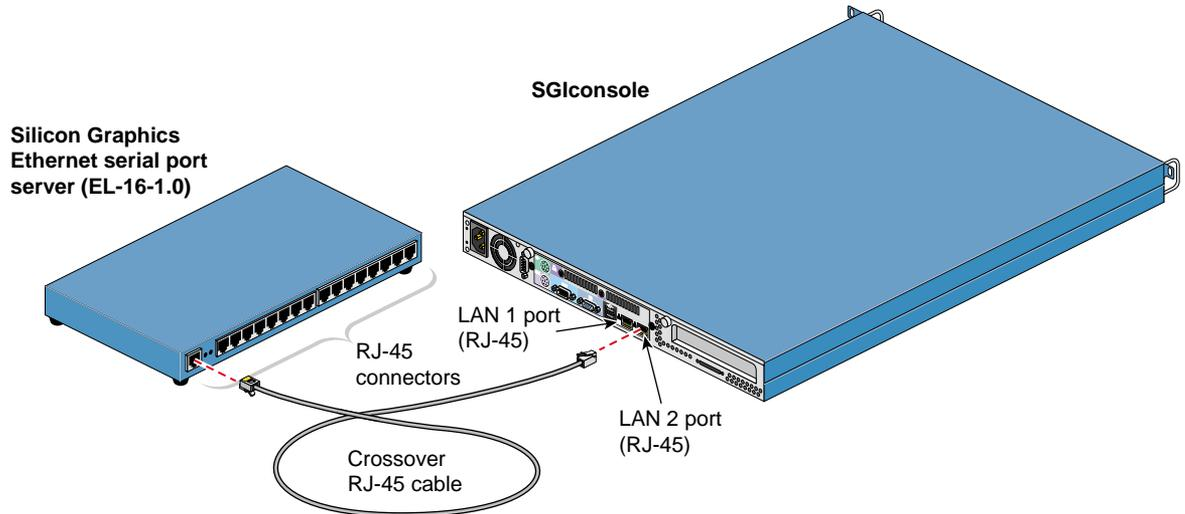

Figure 2-30 Connecting SGIconsole to the Silicon Graphics EL Serial Port Server
4. If you have not already done so, connect one end of the RJ-45 to RJ-45 crossover Ethernet cable to the **LAN 2** port RJ-45 jack on your SGIconsole, and connect the other end to the leftmost RJ-45 jack on the Silicon Graphics EL serial port server. See Figure 2-30.